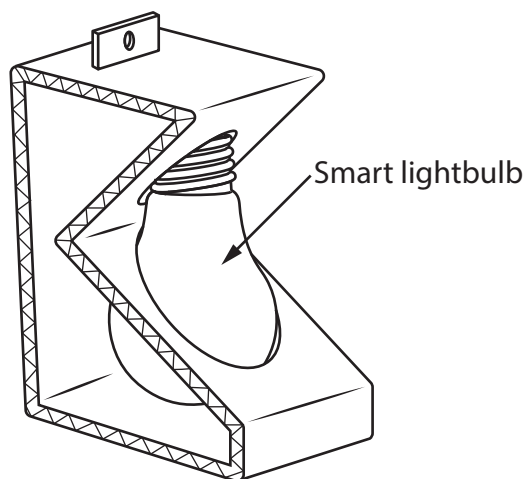

Figure 7
- 4 Figure 7 shows a one piece corrugated board package for a smart lightbulb.